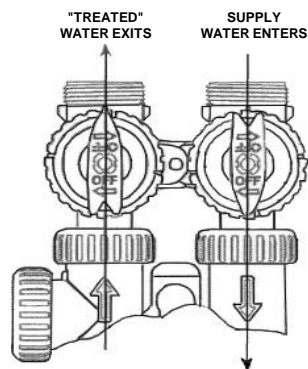

Figure 1
1. **Normal Operation Position:** The inlet and outlet handles point in the direction of flow indicated by the engraved arrows on the control valve. Water flows through the control valve for normal operation of a water softener or filter. During the regeneration cycle this position provides regeneration water to the unit, while also providing untreated water to the distribution system (**Fig. 1**).
6. Place bypass valve in the normal operating mode (*Fig. 1 on page 4*) by opening the outlet bypass handle. Press **REGEN** and the unit will return to the service position with time of day being displayed.